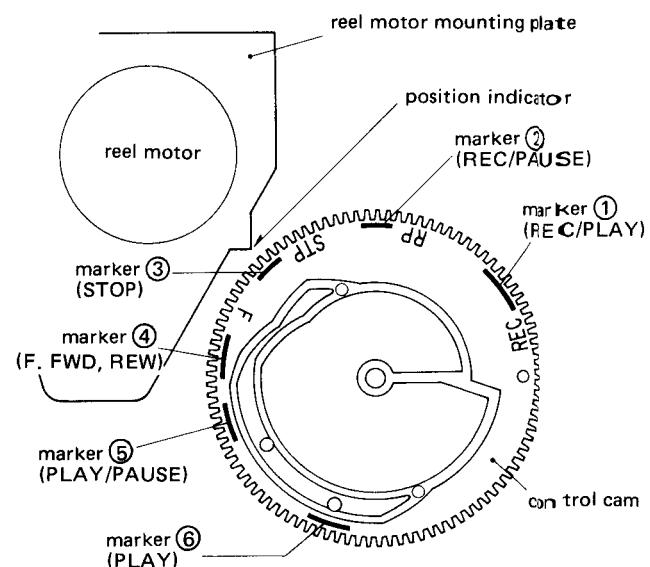

Fig. 4-4 Control cam positioning
- Push PLAY (▶) button together with REC button, then check that the center of marker ① coincides with position indicator of the reel motor mounting plate. If not, adjust by using R32.
- After pushing STOP button, depress the PLAY button. Then check that the center of marker ⑥ agrees with the indicator. R33 is provided for this adjustment.
- Pushing the STOP button, check that the center of marker ③ coincides with the indicator as shown in Fig. 4-4. R31 is for this adjustment.
- Check that when in REC/PAUSE mode the indicator is within range of marker ②.
F. FWD and REW modes: marker ④.